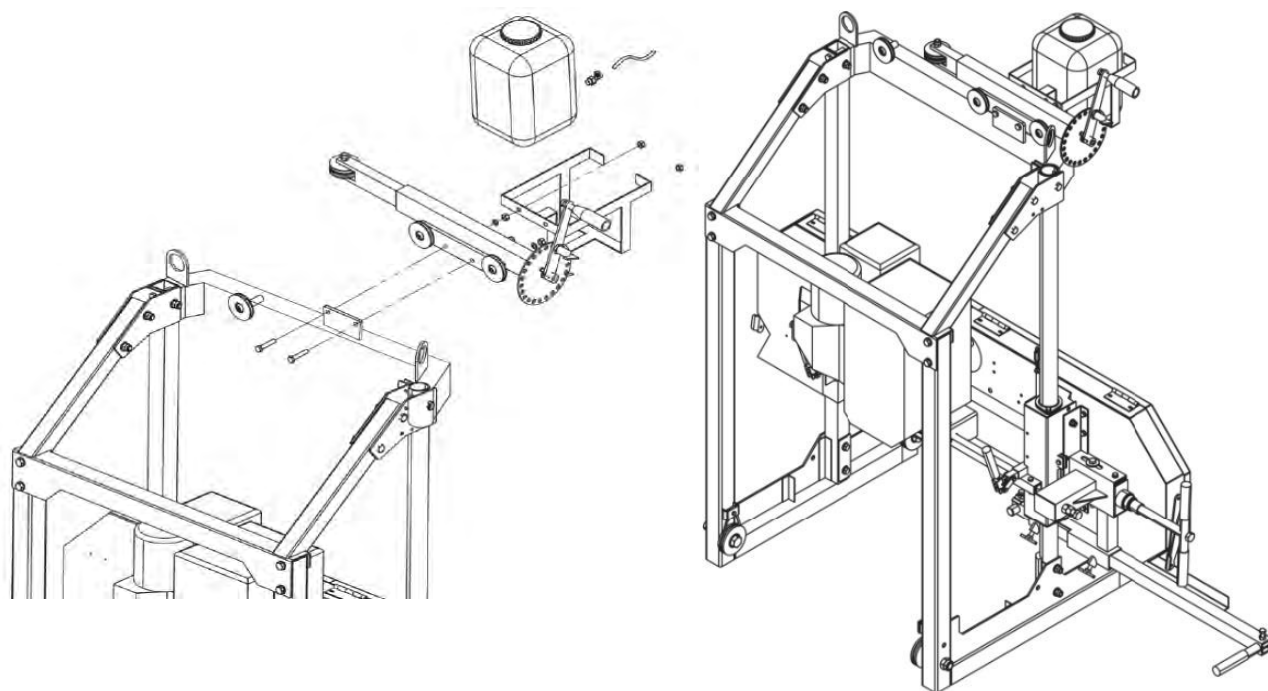

Fig.5-15: Lifting system and water tank
9. Mount the lifting system and water tank to the support (Fig. 5-15). Use a wrench to hold the nut and tighten the bolt, then place the water tank into the bracket.